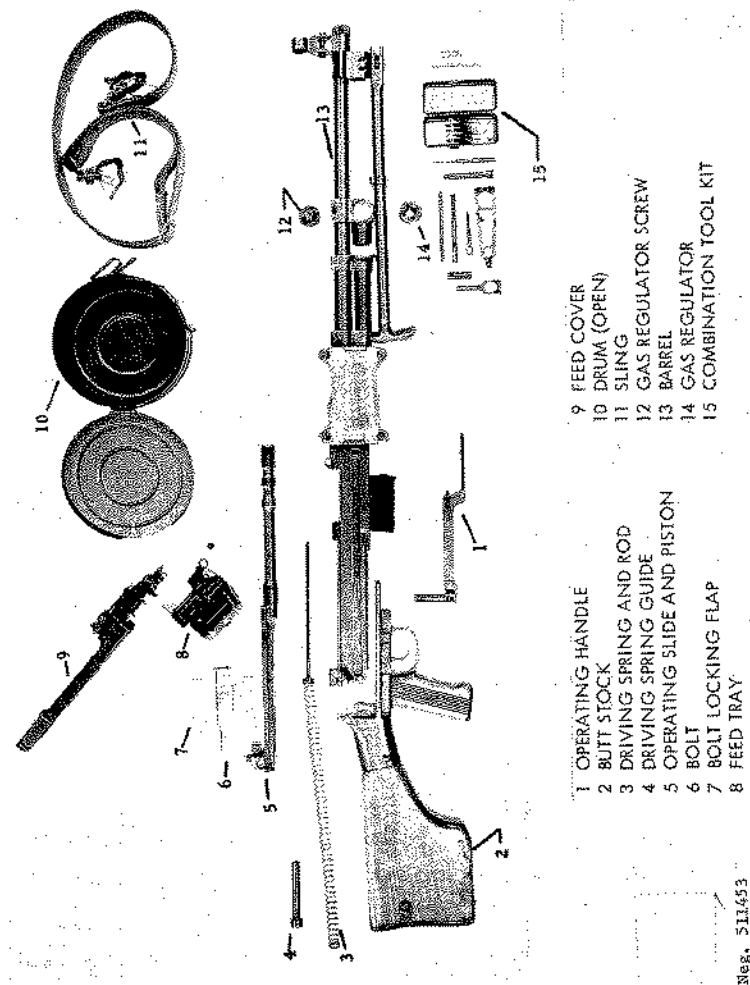

Figure 154. RPD field stripped.
(3) Pull the operating slide and bolt (fig 154) out of the receiver and separate the bolt from the operating slide by lifting the bolt straight up. The locking flaps will fall free.
(4) No further disassembly is necessary or desirable.